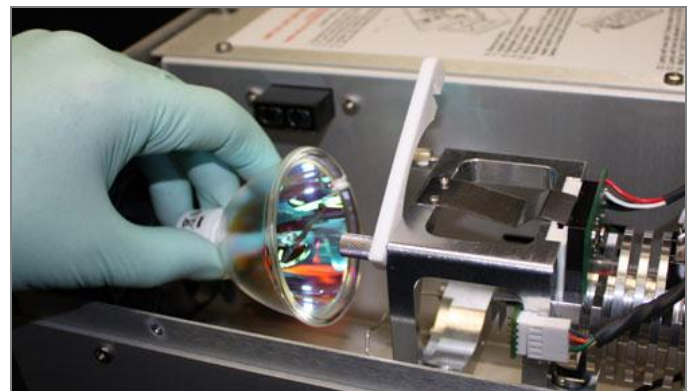
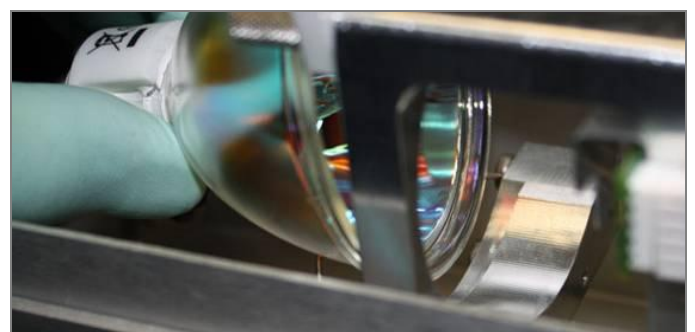

Figure 11. Bulb Replacement Step 3
Figure 12. Bulb Replacement Step 5
5. Orient the new Bulb so the Side Electrode Wire is positioned at the side of the housing that is open (Figure 11). Carefully seat the bottom edge as shown in Figure 12. The lower Retaining Spring Wire will exert resistance that you will need to overcome as you seat the Bulb. With the lower edge seated, tip the top edge into the upper seat. The Bulb will remain in place if properly installed.